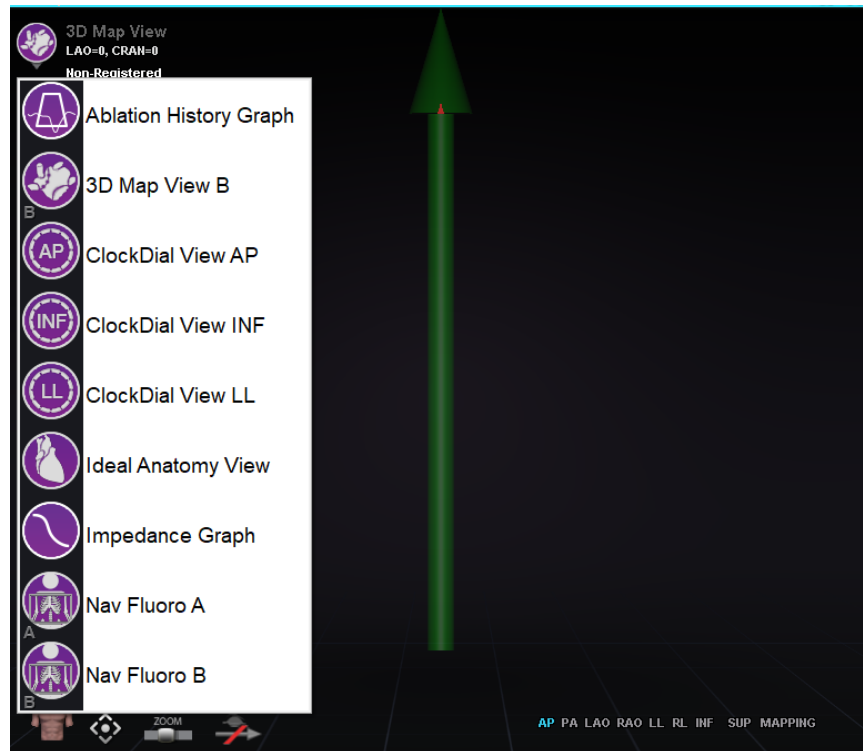

Figure 19. Window Display Menu Options
- Use the window swap drop-down menu (**Figure 19**).
The *Navigant* video source area includes purple icons in the upper, left-hand corner of each window. Selecting this icon will enable a drop-down menu (**Figure 19**) where the user can select a different display within that window.